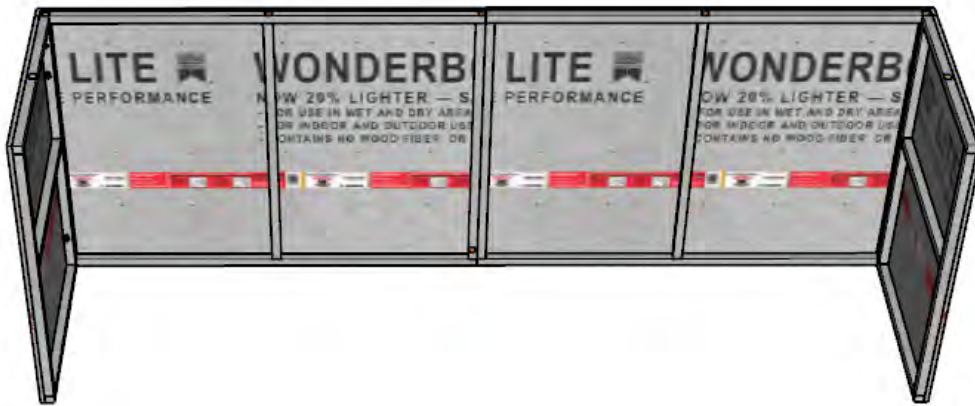

Figure 6
- Slide module 2 back and end together with module 1 back and end as shown in figure 6